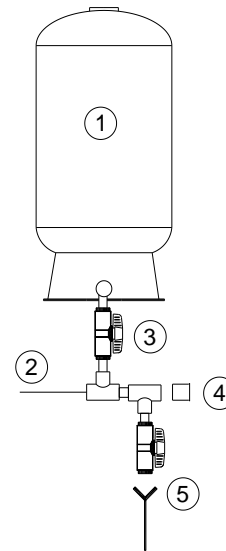

FIGURE 11: HYDROPNEUMATIC TANK
2. Turn the tank valve (Fig.11, #3) to the off position.
3. Connect the output of the sanitizer kit to the inlet to the storage tank (Fig.11, #22).
Hydrotech sanitizer tubing to the other end of the tee. (Fig. 11, #4)
10. Let the tank sit for 30 minutes then open the tank drain valve (Fig.11, #5) and empty the tank to drain. Close the valve after entire contents of the tank are drained. Do not use this water.
12. Close this valve and open the sanitizer drain valve (Fig.11, #5). Discard the rinse water to the drain. Do not use this water.